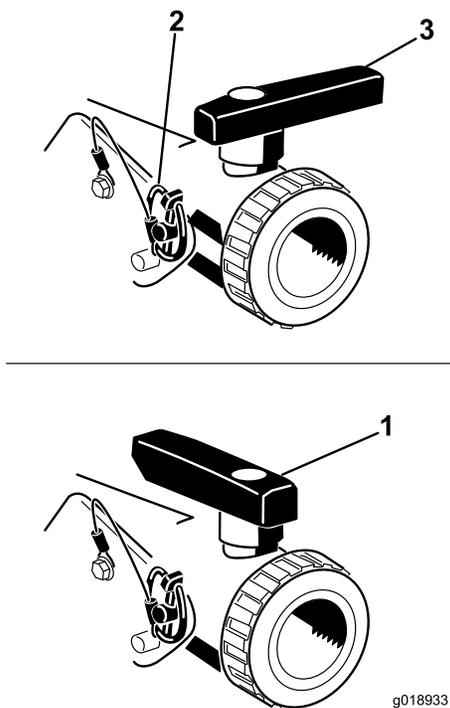

Figure 23
Open the valve to drain any unused material from the tank and dispose of it according to local codes and the material manufacturer's instructions (Figure 23). After draining, remove the lynch pin on the bracket securing the drain valve to the machine and let the valve rest on the ground. This allows any residual material in the line to drain.
3. When the tank has drained completely, install the valve to frame with the lynch pin removed previously and close the drain valve (Figure 23).